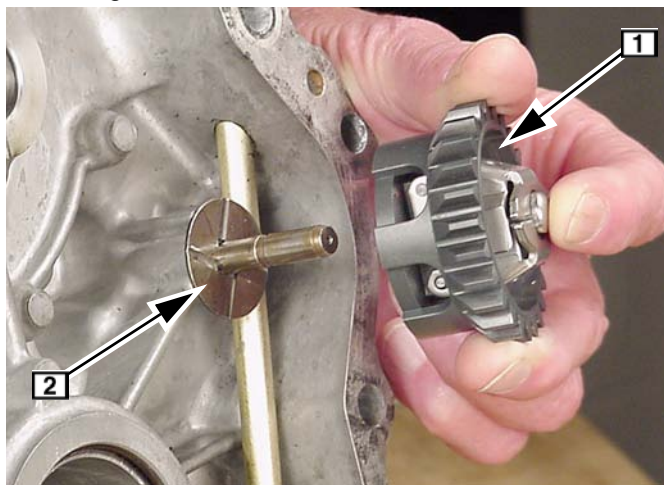

Fig. 60
5. Remove governor gear **1** and thrust washer **2**, Fig. 60.